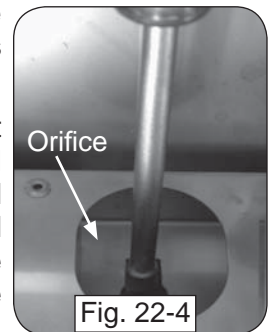

Fig. 22-4
5. Use a $\frac{3}{8}$ " hex nut driver to remove the exposed orifice (Fig. 22-4) and replace it with the correct orifice for the new gas. (See Table 1 at the beginning of this document for orifice sizes.)